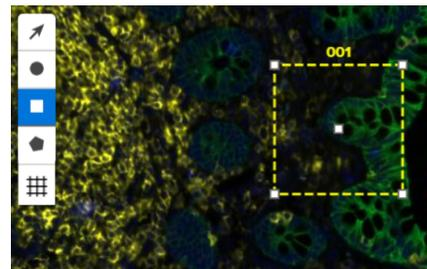

Figure 31: Scan Workspace square ROI button
1. Select a shape button (circle or rectangle) from the Scan Workspace (Figure 31).